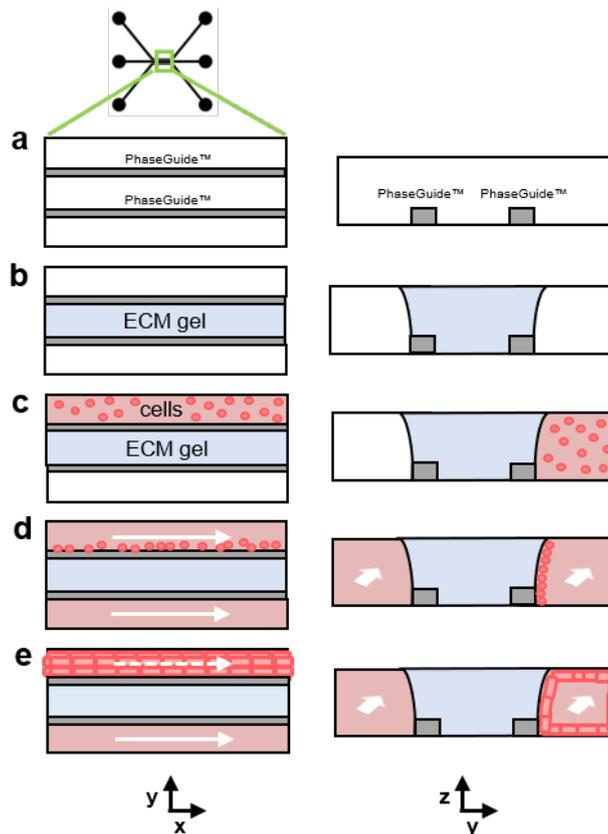

Figure 3: Schematic representation of tubule culture against ECM gel in the OrganoPlate® 3-lane
A collagen-I ECM gel is loaded in the gel inlet of the OrganoPlate® and fills the gel channel. After polymerization of the gel, a cell suspension is seeded in the top medium inlet and fills the top medium channel. After cell attachment, medium perfusion is started to aid the formation of a tubule (figure 3).
6. Seed 2 µL of cell suspension in the top medium inlet (columns 1, 4, 7, 10, 13, 16, 19, 22; rows A, D, G, J, M) using the same pipetting procedure as previously used for gel loading (see figure 3)